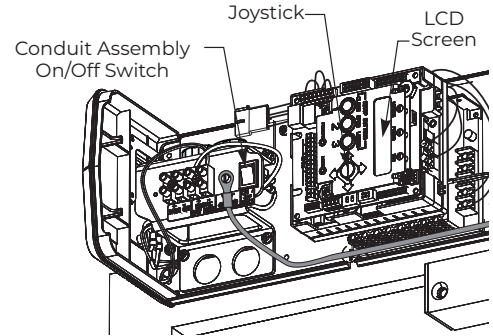

Fig. 24 Union Assembly and Spacer not shown
2. Turn On/Off switch to "ON" position on conduit assembly. (Fig. 24)
- To scroll through menu items, push up or down on joystick. (Fig. 24)